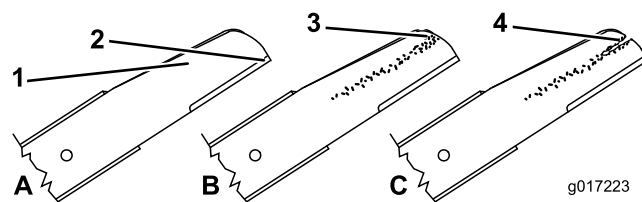

Figure 41
1. Inspect the cutting edges (Figure 41). If the edges are not sharp or have nicks, remove the blades and have them sharpened or replace them.
2. Inspect the blades themselves, especially the curved area (Figure 41). If you notice any damage, wear, or a slot forming in this area, immediately replace it with a new blade.